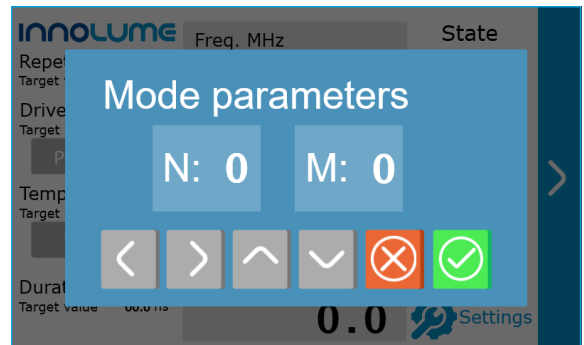

Figure 28 – Burst mode parameters
6. To set the burst mode parameters tap on  button, use the left and right arrows to select the parameter to change, use the up and down arrows to change the parameters value (fig. 28). Press  button to save the changes and exit menu. Press  button to exit menu without changes.